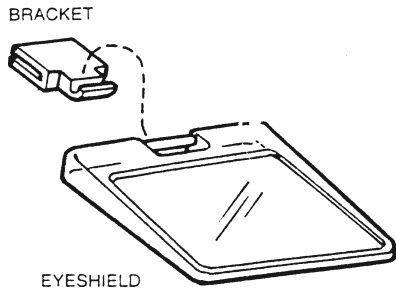

FIGURE 3
- a. Select one flat bracket and one eye shield. Assemble as shown in Figure 3.
- a. For installation of the right eye shield (19), make sure that the holes in the eye shield bracket face downward.